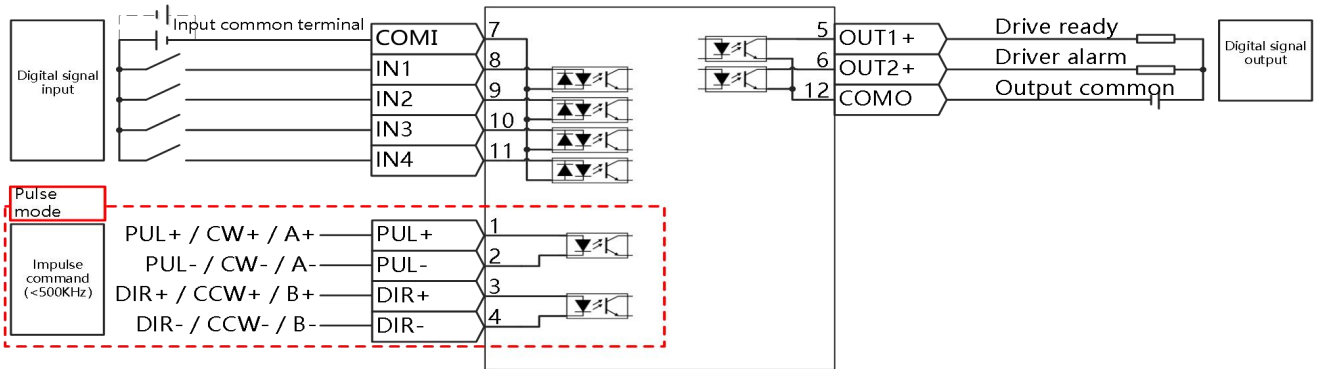
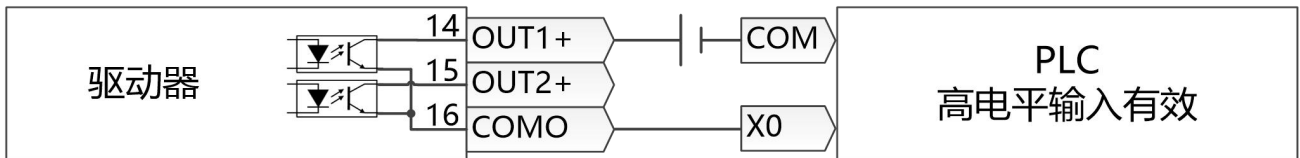

Figure3-3 MD seriescontrol wiring diagram
Figure3-4 PNP input wiring
- Figure 3-3 shows the wiring with default IO function. More IO functions can be defined by the Kinco servo software. For more details on IO functions, please refer to the relevant sections.
- For digital output, Figure 3-3 only shows NPN connection, and Figure 3-4 shows PNP connection